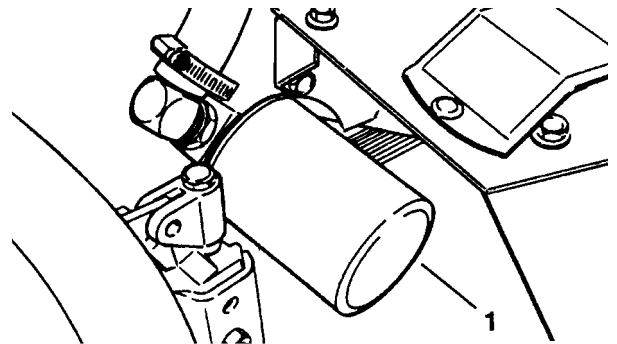

Figure 30
2. If only the filter is to be changed, remove the reservoir cap and insert the reservoir plug (Fig. 30), to the block outlet.